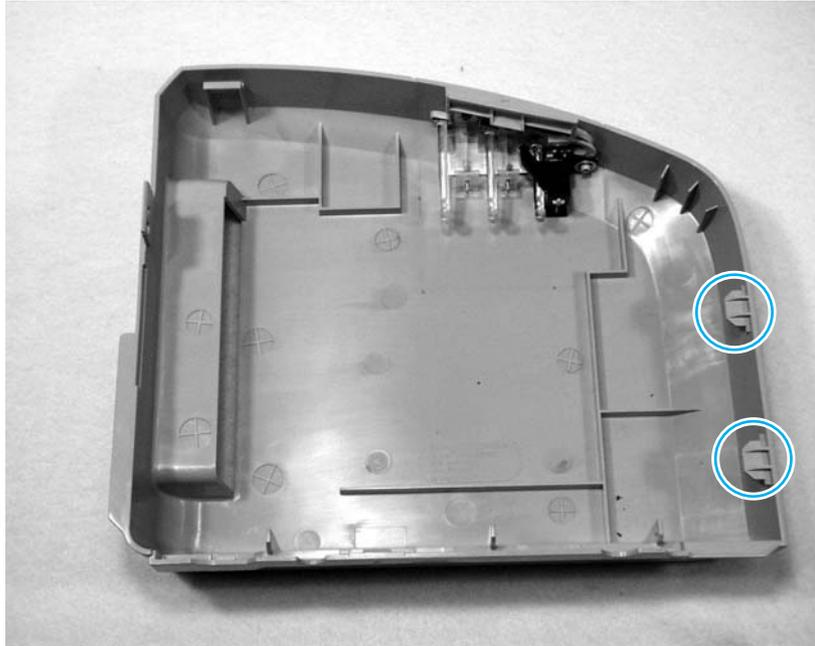

Figure 5-4. Removing the right side cover (1 of 5)
1. Prior to removal, examine the figure and note the location of tabs on the cover (figure 5-4).